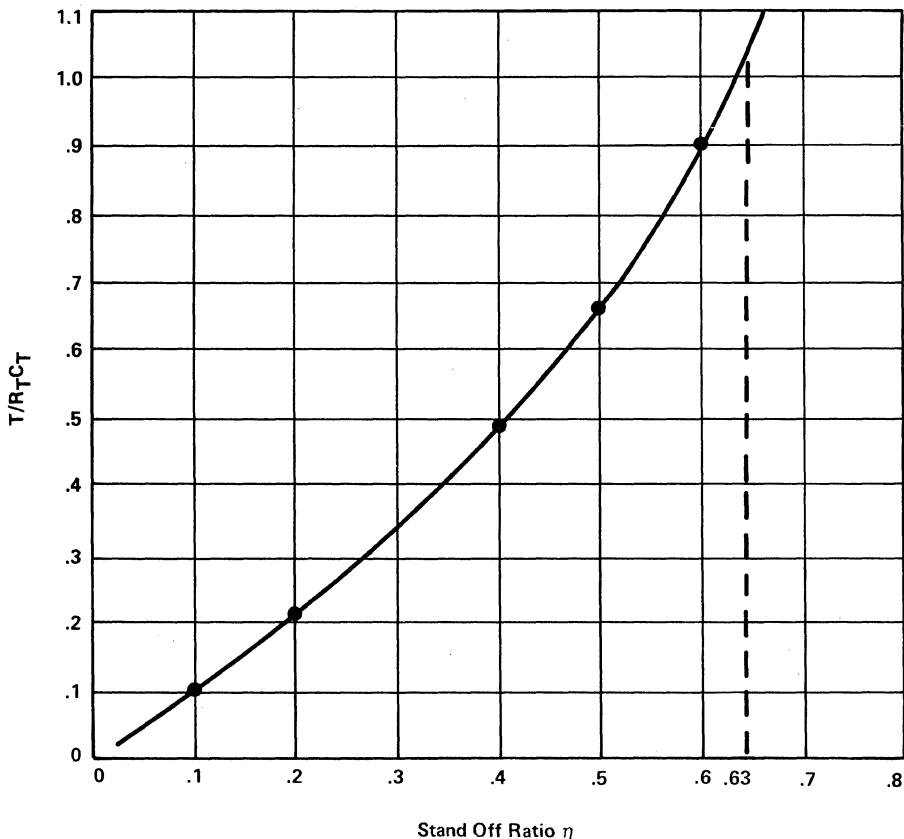

Fig. 9
- Step 2** From Fig. 9 with T given as 0.001 sec and η of 0.63. $R_T C_T = 0.001$, $T/R_T C_T = 1$ @ $\eta = 0.63$.